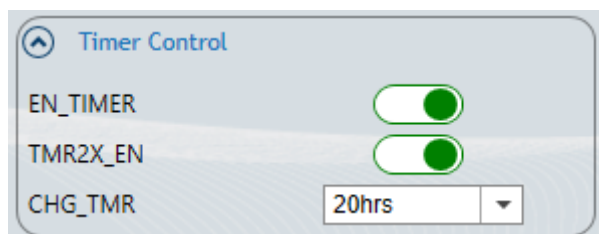

Figure 20: Safety Timer Setting
16. Figure 20 shows the safety timer setting.